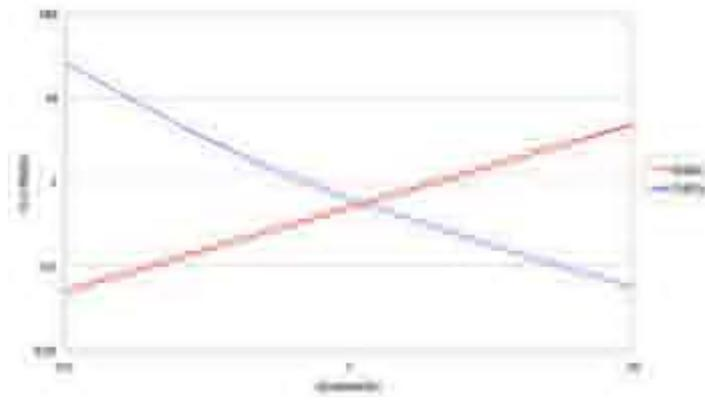

Figure 3: Once you pick LO and Co, choose CD and RD from maximum allowable source impedance.
Figure 3 can be quite useful in selecting the damping components. This chart was prepared using the closed form solution developed by RD Middlebrook. The abscissa is the ratio of the damped filter output impedance to the characteristic impedance of the undamped filter ( $Z_0 = (LO/CO)^{1/2}$ ). There are two ordinate values: the ratio of damping capacitor to filter capacitor (N); and the ratio of the damping resistor to the characteristic impedance. To use this chart, first pick LO